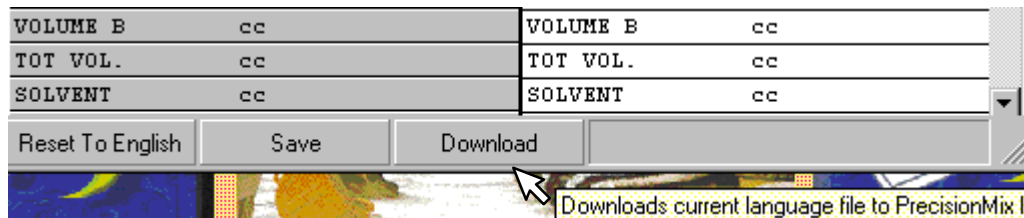

Fig. 13.65
- Download the language file for the Run Screen Monitor by pressing the Download button. See Fig. 13.65.